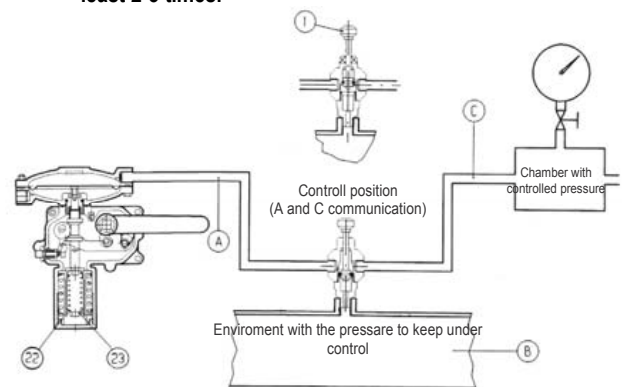

fig. 18
- A) For slam-shut connected to the downstream piping by a three-ways deviator "push" valve 11, (fig 18) proceed as follows:
- A) For slam-shuts connected to the downstream piping by a three-ways deviator "push valve 11, proceed as follows (fig. 18):